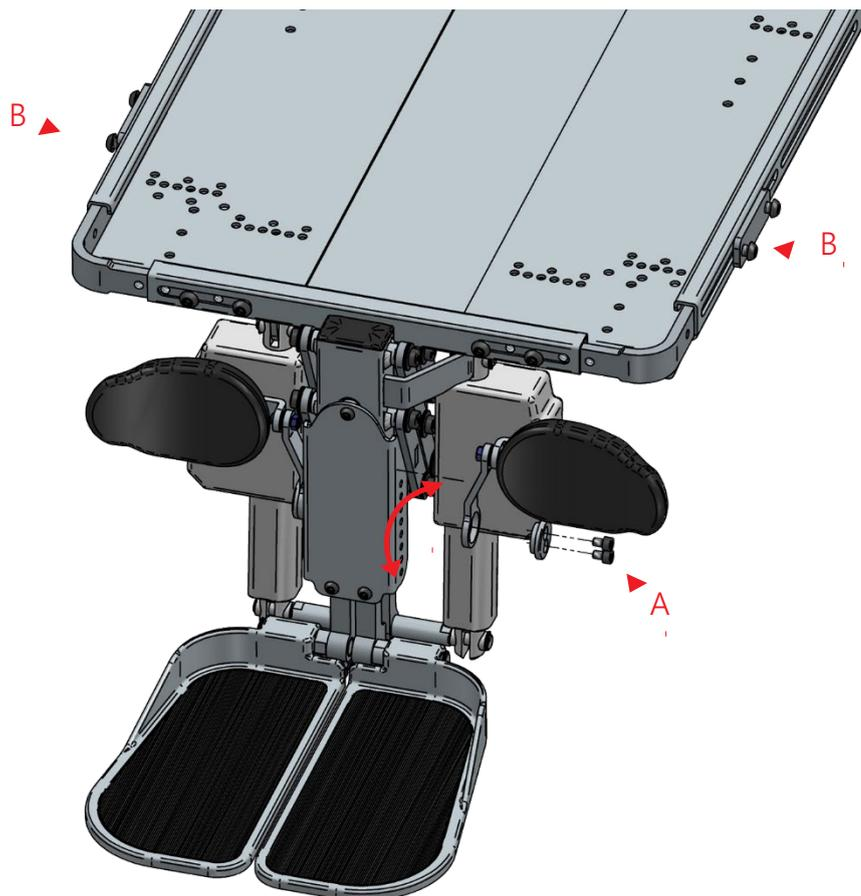

Figure 3
1. Loosen the two hex bolts. (Fig. 3 - Pos. A)
1. Loosen the four hex bolts. (Fig. 3 - Pos. B).